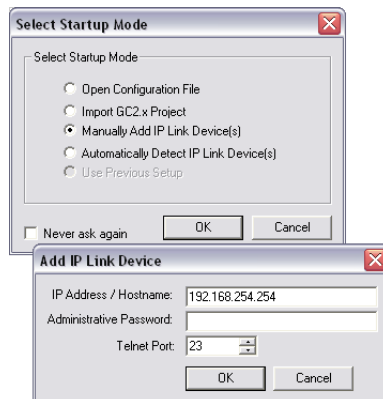

Figure 5-22 — Select Startup Mode window
If the Select Startup Mode window (figure 5-22) **does not** appear, proceed to step 4:
2. If the Select Startup Mode window (figure 5-22) appears: